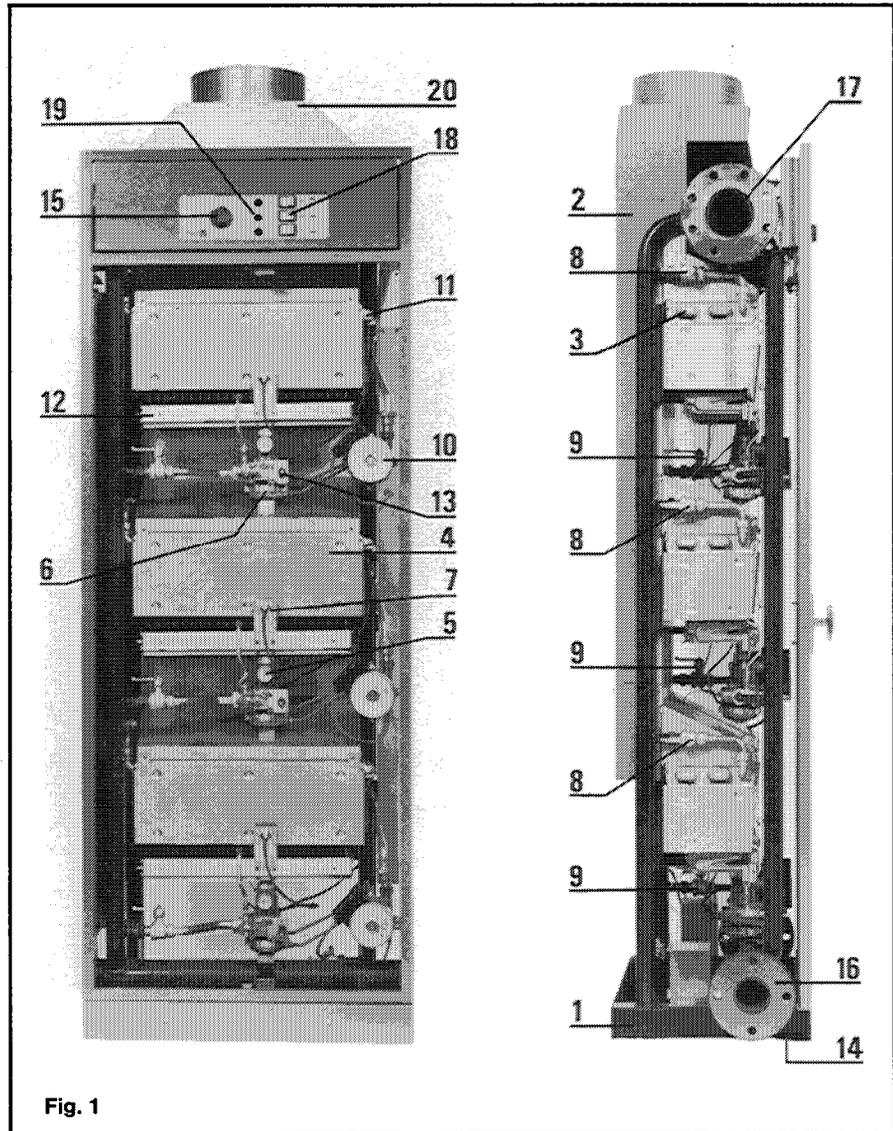
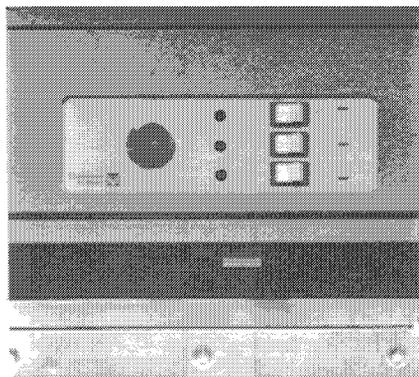
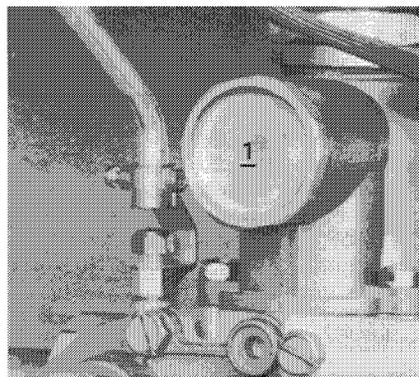

Fig. 1
Fig. 6
Fig. 7
Level the boiler using the bolts provided in the accessory box (14 - fig. 1).
**10) Filling the system** – Fill the system slowly. The filling operation should be carried out with the flow and return isolating valves on each module (8 and 9 - Fig. 1) fully open.
Set the boiler thermostat on each boiler (Fig. 6) to a minimum, and check that all module isolating switches are off (18 - Fig. 1). The switches are wired to be on when at (\*) and off when at "STOP"
Turn up the boiler thermostat (Fig. 6) to the required value, and switch on the individual modules at the isolating switches. The modules should now fire. Check for gas leaks and flue spillage.
Turn off the module to be checked at the isolating switch (18 - Fig. 1) and remove the cap from the volume governor (1 - Fig. 7).